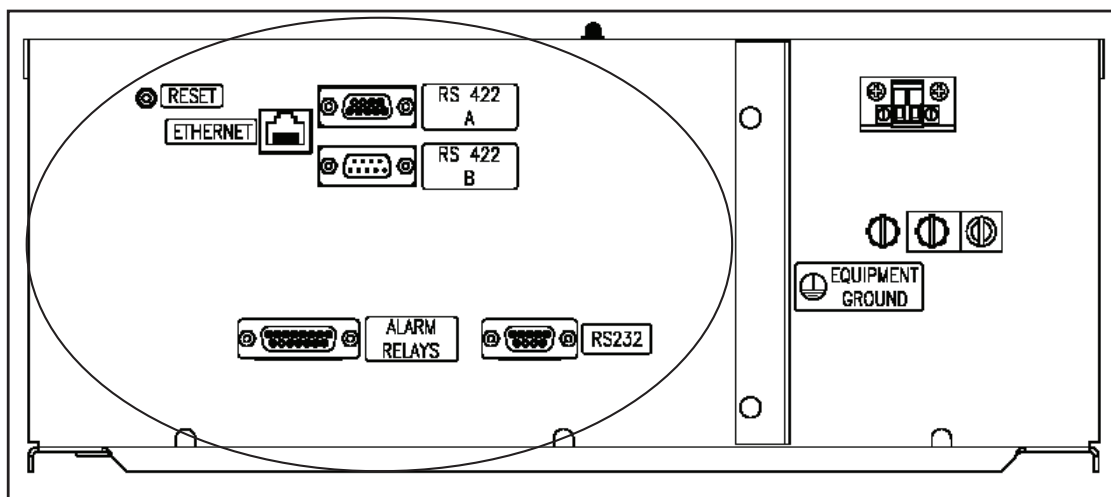

FIGURE 6. ADH NETCOME AC NEMA communications connections.
9. Once the communications cables have been fed into the enclosure, connect the cables to their respective ports inside the enclosure. Refer to the labels on the enclosure, as well as to the internal interconnect diagrams for more detailed information. Refer to Figure 6. As in step 6, seal the communications cable access hole so that no ambient air can get into the